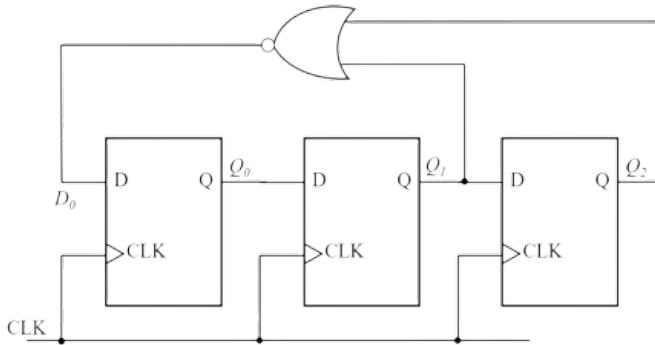

Fig. 5.12
12. The digital circuit shown in Fig. 5.12